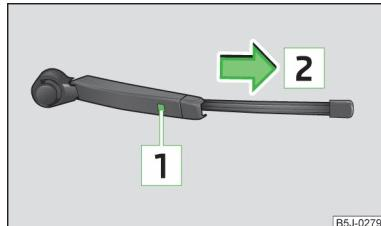

Fig. 52
- Raise the wiper arm away from the window » Fig. 52.